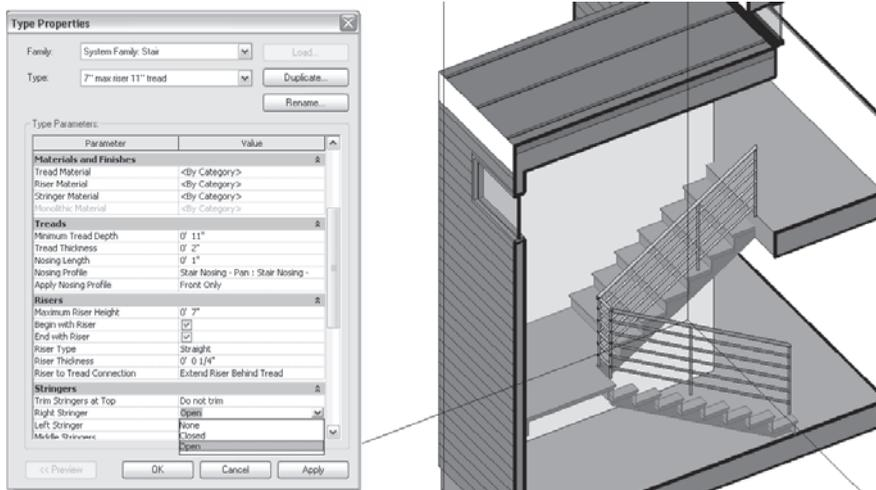

Figure 4.131
3. Change Right Stringer and Left Stringer from Closed to Open (see Figure 4.131).